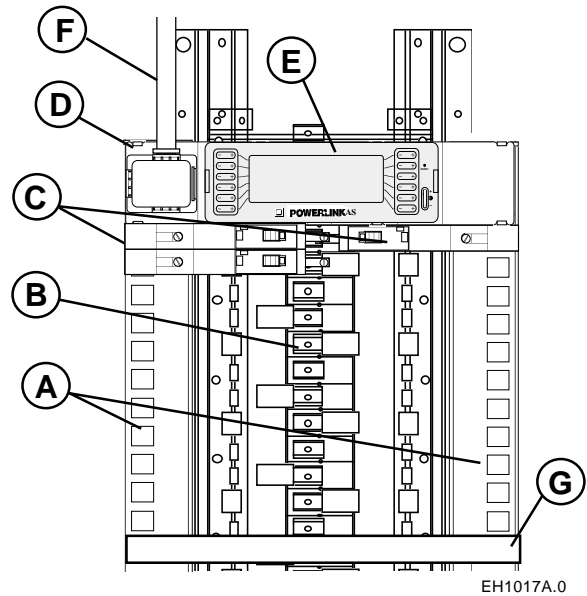

Figure 6
The POWERLINK AS system (figure 6) consists of two control buses (A), a panelboard (B), remotely operated circuit breakers (C), a power interface module (D), and a control module (E). If external control wiring is needed, a Class 2 wire barrier kit (F) is required. An alignment fixture (G) is provided with the control bus package.